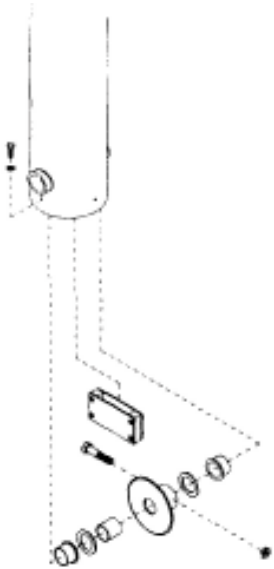

Figure 4.2
1. Install all the parts in correct order for the drive shaft (See figure 4.2). Slide the shaft into the tube from the front, and install the parts onto the shaft from the bottom of tube. Make sure the drive chain runs between the two plastic chain guides and arms.